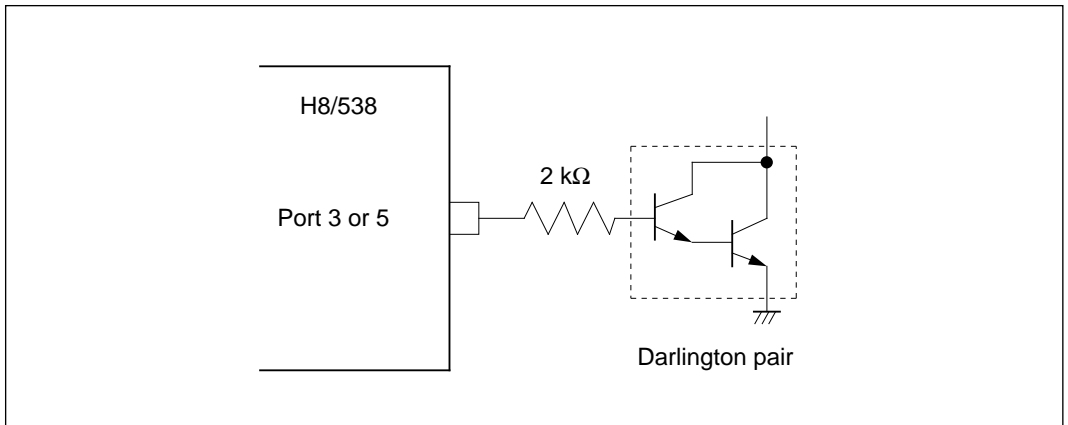

Figure 20-1 Darlington Pair Drive Circuit (Example)
2. When driving a Darlington pair or LED, always insert a current-limiting resistor in the output line, as shown in figures 20-1 and 20-2.